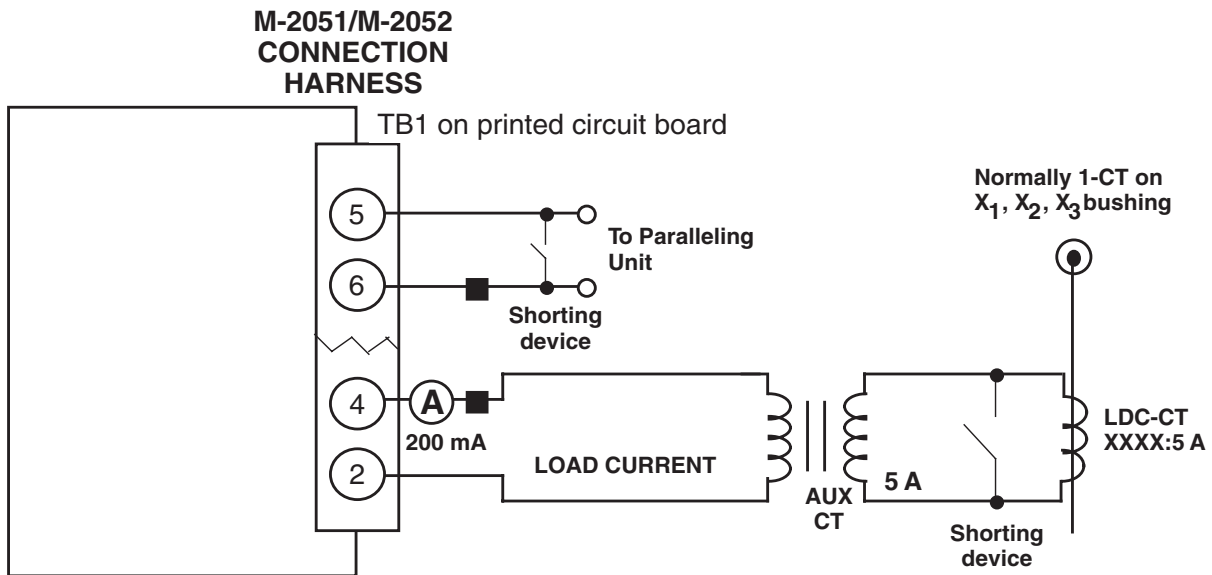

Figure 6 Setup for Current Checkout Procedure
Figure 6 Setup for Current Checkout Procedure	7
3. As shown in Figure 6, below, temporarily place a shorting device across the LDC-CT secondary to short the line drop compensator circuit, and place another shorting device across TB1-5 and TB1-6 to short the circulating current paralleling input, for the load current check. Insert an ammeter between the polarity input and TB1-4. Open the load current shorting device and with a known load on the transformer or regulator, measure the current in the load current circuit to ensure that this current is correct for 0.2 A full load.